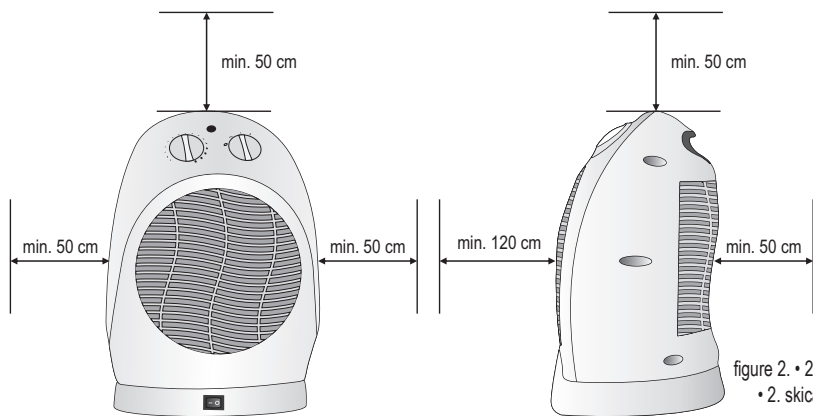

figure 2. • 2. ábra • 2. obraz • figura 2.
6. Never locate the unit directly in corners and observe the minimum mounting distances indicated in Figure 2. Always observe the health and safety regulations valid in the country of use.
3. Set the appliance on a stable and horizontal surface. The free flow of warm air must be ensured for proper operation, therefore, please note the minimum installation distances indicated in **Figure 2**.
4. Verify that the unit's mode selector (3) is in the OFF "0" position.